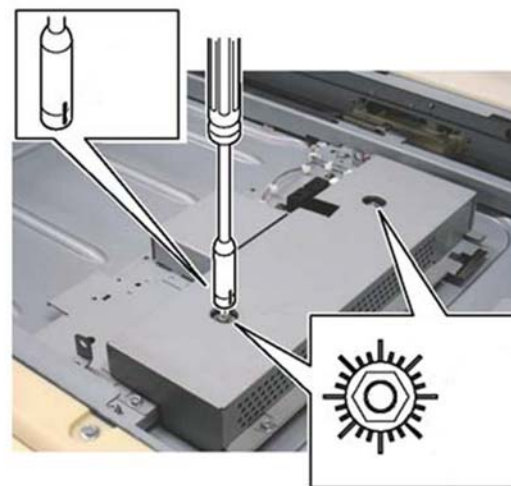

Figure 1 Nut adjustment
- Front nut refers to the nut at the front of the CCD lens assembly, refer to Figure 1.
- Rear nut refers to the nut at the rear of the CCD lens assembly, refer to Figure 1.